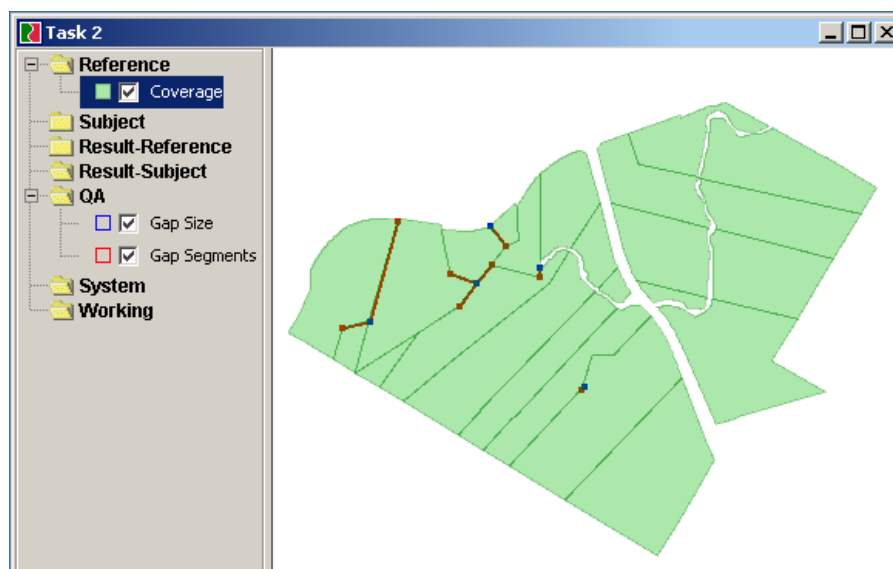
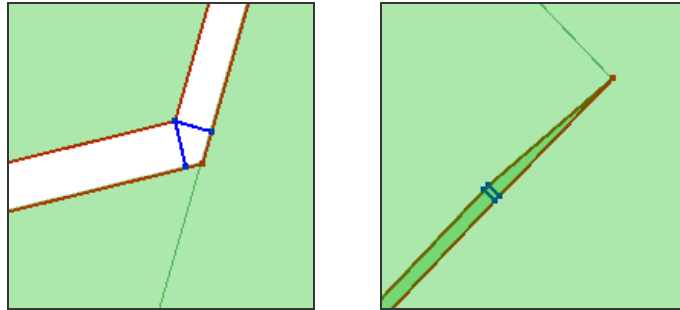

Figure 4 - QA layers created by the Find Coverage Gap function
Figure 5 - Closeups of gaps showing Gap Segment indicators (red) and Gap Size indicators (blue)
- When the Find Coverage Gap function executes it will create two new layers in the QA category (see Figure 4 and Figure 5 below):